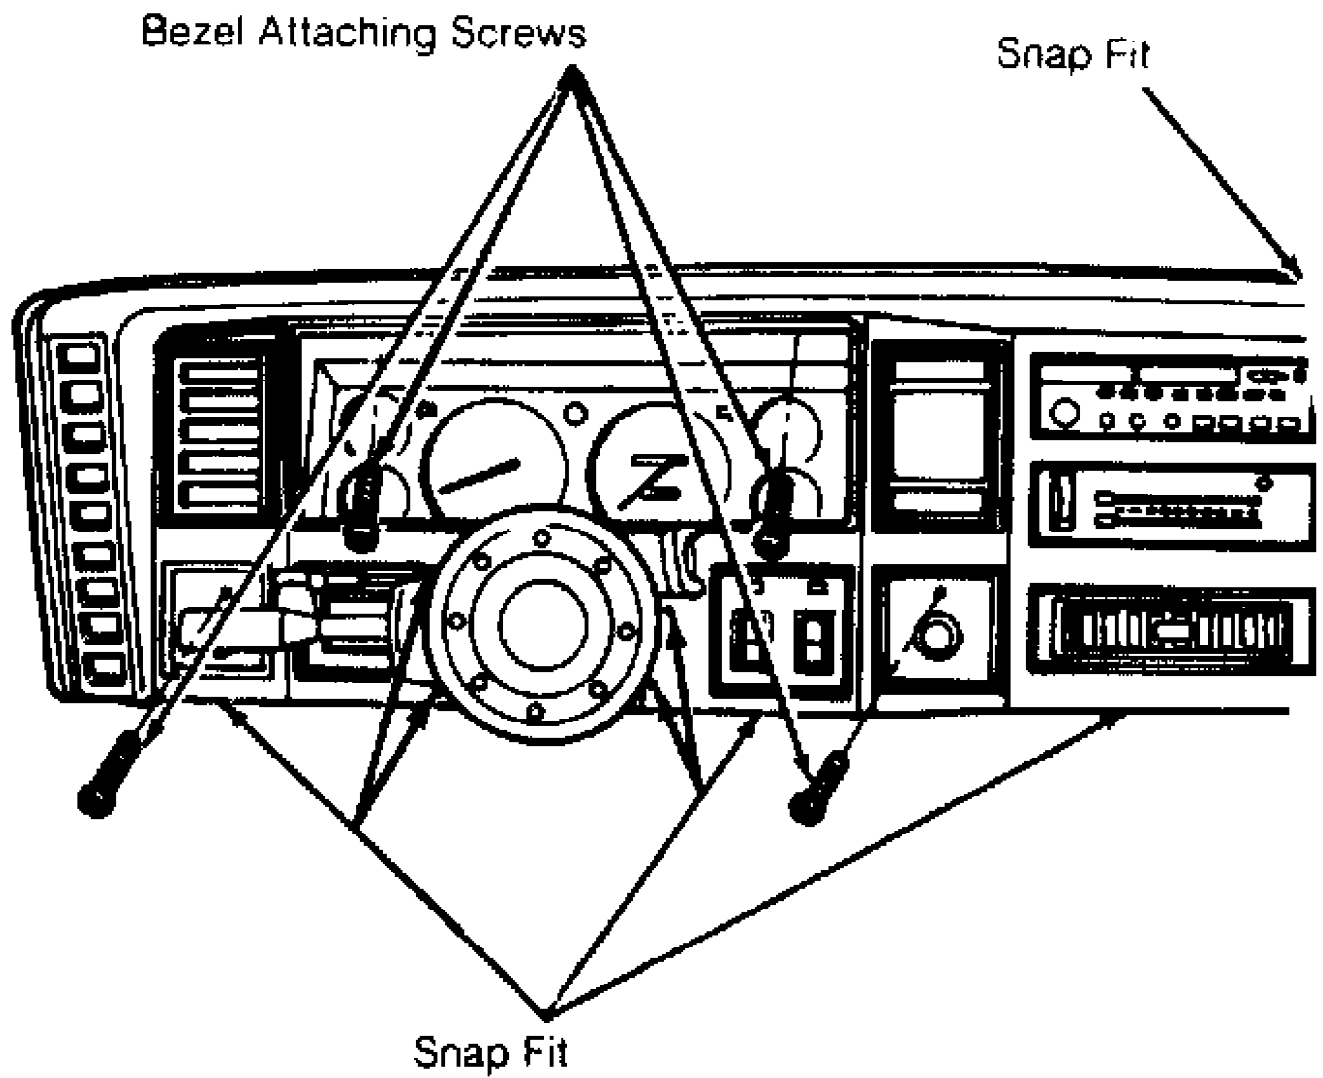

Fig. 3: Removing Instrument Cluster Bezel
1) Disconnect negative battery cable. Remove 4 instrument cluster bezel attaching screws, and unsnap instrument cluster bezel. See Fig. 3. Remove cigarette lighter housing attaching screw. Remove switch housing attaching screws. See Fig. 4.